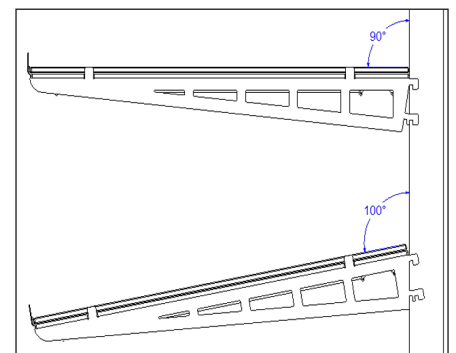

Figure 3 - Diagram showing the Shelf brackets angle adjustments
- (d) The angle of the shelf can be adjusted by using one of the two slots in the shelf bracket mounting (see Figure 3).